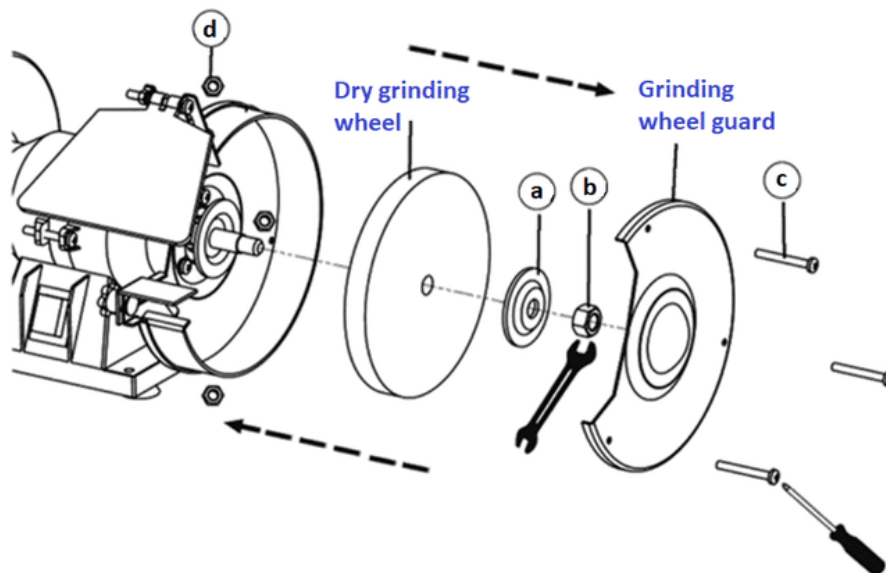

Fig. 4
- Remove the grinding wheel guard (6) by loosening the screws (c) and nuts (d). See Fig. 4.
- Fit a new grinding wheel (8) onto the spindle. Inspect the new grinding wheel for any damages, flaws or cracks.